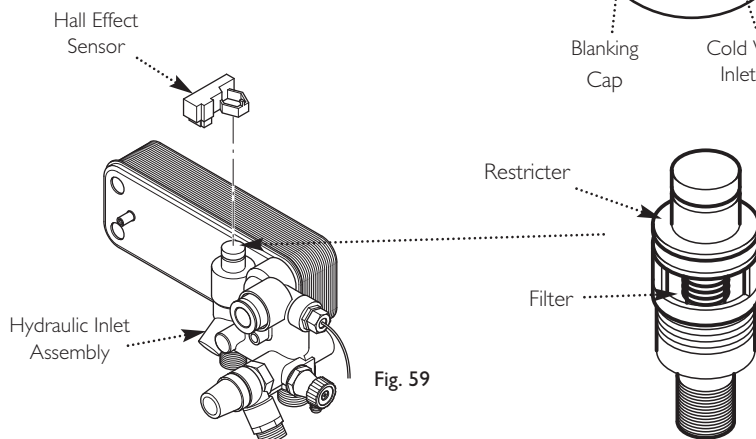

Fig. 59
DHW Filter (Fig. 59)
17. Pull off the Hall Effect sensor. Undo the restrictor from the inlet/return manifold (Fig. 59).